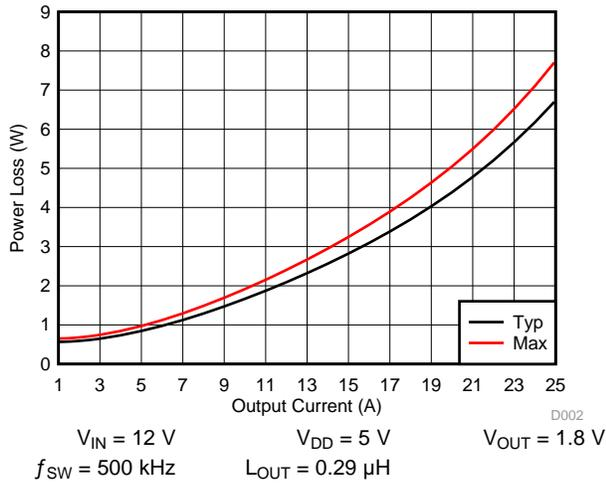
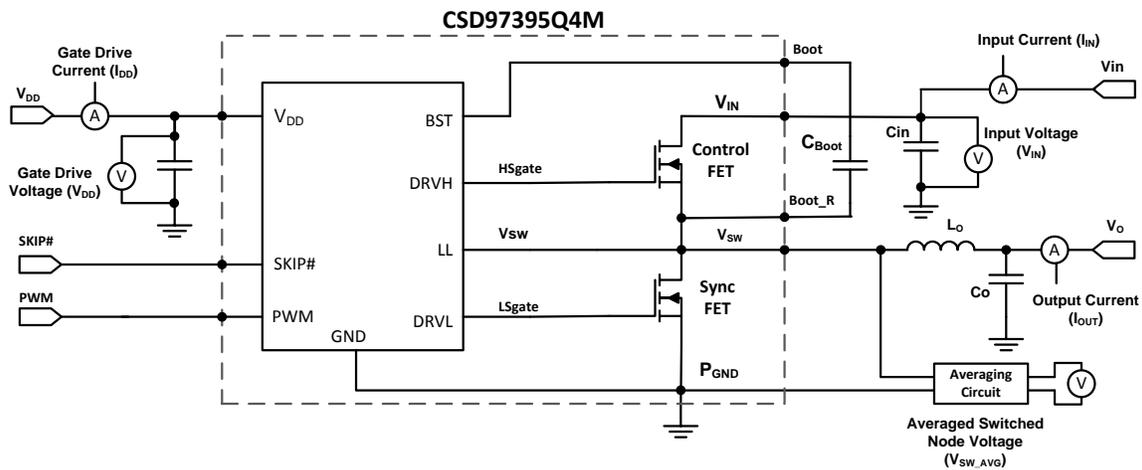

Figure 4. Power Loss vs Output Current
Figure 14. Power Loss Test Circuit
MOSFET centric parameters such as R_{DS(ON)} and Q_{gd} are primarily needed by engineers to estimate the loss generated by the devices. In an effort to simplify the design process for engineers, Texas Instruments has provided measured power loss performance curves. Figure 4 plots the power loss of the CSD97395Q4M as a function of load current. This curve is measured by configuring and running the CSD97395Q4M as it would be in the final application (see Figure 14). The measured power loss is the CSD97395Q4M device power loss which consists of both input conversion loss and gate drive loss. Equation 1 is used to generate the power loss curve.
The power loss curve in Figure 4 is measured at the maximum recommended junction temperature of T_J = 125°C under isothermal test conditions.
- Typical Power Loss at 15 A = 2.8 W (Figure 4)